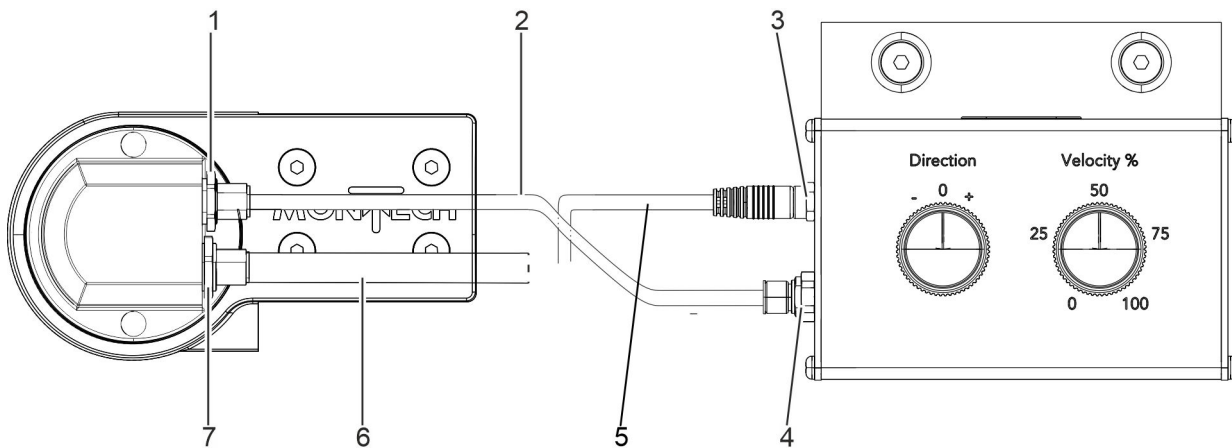

Fig. 38: Connecting the MonTurn (example: drive unit on the right)
1. ➤ Establish a signal line between the conveyor drive unit and MonTurn. Connect the "MonTurn" signal cable (Fig. 38/2) at one end to the signal connection (Fig. 38/4) of the MonTurn.
2. ➤ Connect the other end of the "MonTurn" signal cable to the signal connection (Fig. 38/1) of the drive unit.
3. ➤ Connect the "MonTurn" power cable (Fig. 38/5) to the power connection (Fig. 38/3) of MonTurn.
4. ➤ Connect the "TB40" power cable (Fig. 38/6) to the power connection (Fig. 38/7) of the drive unit.
5. ➤ Route and wire the "MonTurn" (Fig. 38/5) and "TB40" (Fig. 38/6) power cables to the power supply unit.